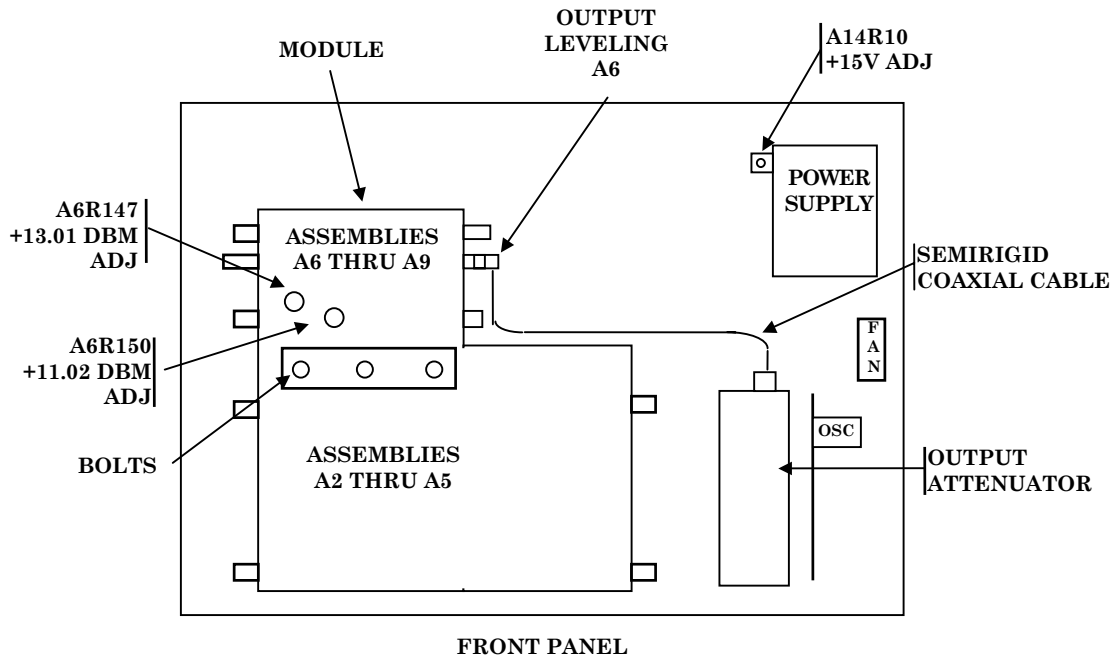
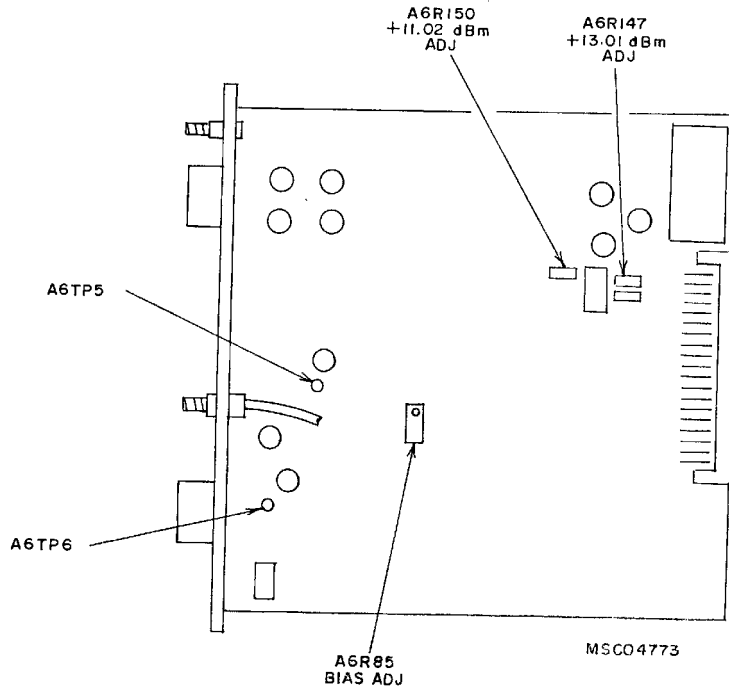

Figure 1. Test Instrument - top view.
Figure 2. A6 output amp/level control.
- (1) Press **ON-STBY/POWER** pushbutton to **OFF**.
- (2) Remove top cover.
- (3) Remove three bolts that hold module to chassis (fig. 1).
- (4) Remove semirigid coaxial cable (fig. 1).
- (5) Turn TI on side and remove module from chassis (fig. 1).
- (6) Remove assemblies A6 and A7 (fig. 1) and place on extender boards .
- (7) Install cable from A6 **OUTPUT LEVELING** to output attenuator (fig. 1).
- (8) Press **ON-STBY/POWER** pushbutton to **ON**, then press **10, kHz/+dBm, AMPLITUDE, 13.01, kHz/+dBm** pushbuttons.
- (9) Ground A6TP5 (fig. 2).
(10) Connect multimeter between A6TP6 (fig. 2) and chassis ground. Adjust **BIAS ADJ A6R85** (fig. 2) for 0 V  $\pm$ 0.01 V dc (R).
- (13) Remove extender boards and reinstall assemblies A6 and A7 (fig. 1) into module.
- (14) Replace module in chassis and secure.
- (15) Replace semirigid coaxial cable removed in (4) above.
- (16) Repeat **a** (1) above.
- (17) Press **ON-STBY/POWER** pushbutton to **ON** and allow TI to operate at least 30 minutes.
- (18) Press **10, kHz/+dBm, AMPLITUDE, 13.01, and kHz/+dBm** pushbuttons.
- (19) Adjust A6R147 (fig. 2) (+13.01 dBm ADJ) for 1 V +0.005 V ac on multimeter. Note and record the difference from I V (R).
- (20) Press **AMPLITUDE, 11.02, and kHz/+dBm** pushbuttons.
- (21) Adjust A6R150 (fig. 2) (+11.02 dBm ADJ) for a multimeter reading listed in table 5 corresponding to the difference recorded in (19) above (R).
(1) Assemblies A2 through A9 (fig. 1) must be installed before adjustments can be made.
**b. Adjustments.** Adjust A14R10 (+15 V ADJ) (fig. 1) for a 15 V dc indication on multimeter (R).